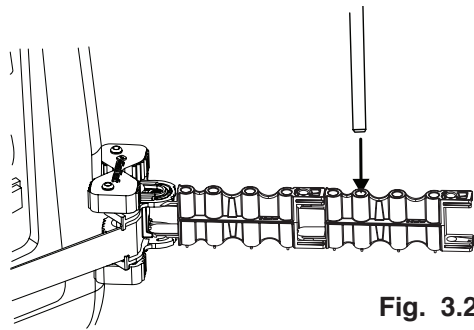

Fig. 3.2
c. Insert the other end of the frame rod fully into the corresponding Extender Arm hole at the pre-measured locations. (Fig. 3.2)
f. Check the Extender Arms; the Frame Rods should be fully seated into the Frame Rod holes. (Fig. 3.2) The Extender Arms will exhibit a slight upward lean; this is due to the force being applied to them by the fiberglass rods.